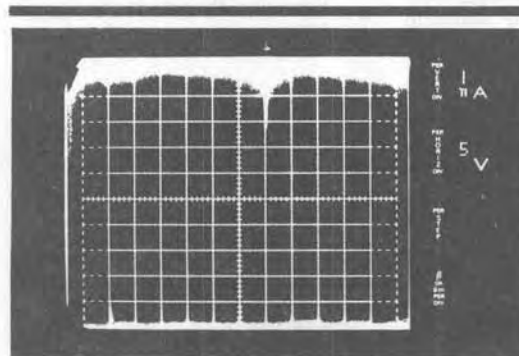

Figure 6. Gate-Source Leakage Current ( $I_{GSS}$ ) at -20V
9. The above procedure is for determining gate leakage current with a positive gate voltage. To make the same measurement using a negative voltage, reduce the VARIABLE COLLECTOR SUPPLY voltage to zero, change the POLARITY switch to the PNP position, and reapply the voltage (see Figure 6). The trace will take time to settle because of the gate-source capacitance.